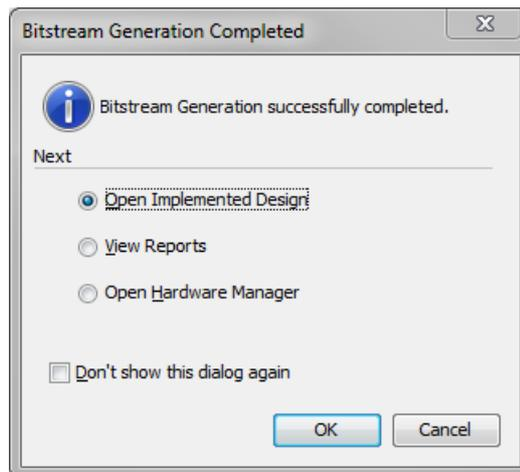

Figure 2.27: Bitstream Generation completion dialogue
- (r) Once the bitstream generation is complete a dialogue window will open to inform you that the process has been completed successfully, as in Figure 2.27.